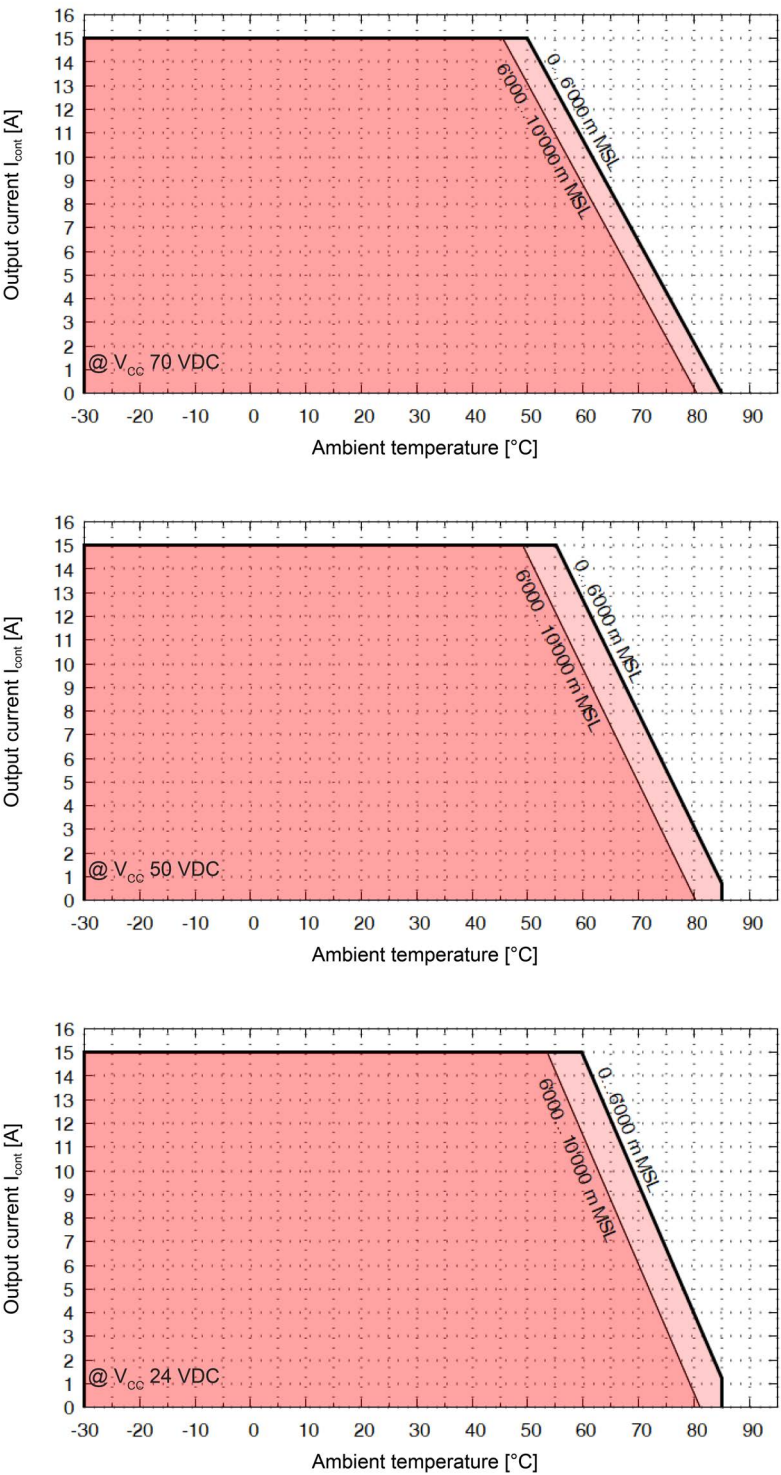

Figure 2-2 Derating of output current
Extended range [a]	+50...+85 °C; Derating: –0.429 A/°C (→Figure 2-2) Additional derating with inserted extension card: Ambient temperature less 5 °C (→Figure 2-2) [d]
- [d] Derating further increases with an inserted extension card. For the actual value, consult →Figure 2-2 and shift the graph horizontally to the left by the specified value.